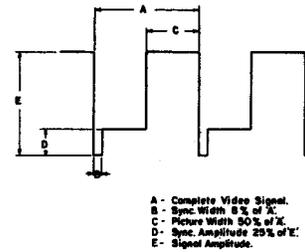
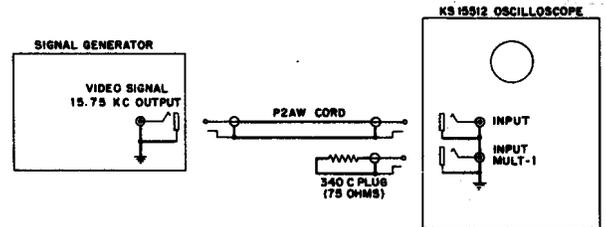

Fig. 3 - Video Test Signal
Fig. 4 - Equipment Arrangement for the Compression Test
- (1) Prepare the oscilloscope as described in Paragraph 1.06.
- (2) Set the 61B signal generator to VIDEO SIGNAL OUTPUT, MOD-UNMOD switch to UNMOD and a 1-volt peak-to-peak video signal proportioned as illustrated in Fig. 3.
- (3) Set the oscilloscope as in Paragraph 2.03(2) but with reduced V GAIN control setting.
- (4) Connect the 61B signal generator and oscilloscope as illustrated in Fig. 4.
- (5) Synchronize the pattern and set the V GAIN control for a signal amplitude (E in Fig. 3) of 16 divisions as observed on
the oscilloscope screen and a sync amplitude (D in Fig. 3) of 4 divisions.